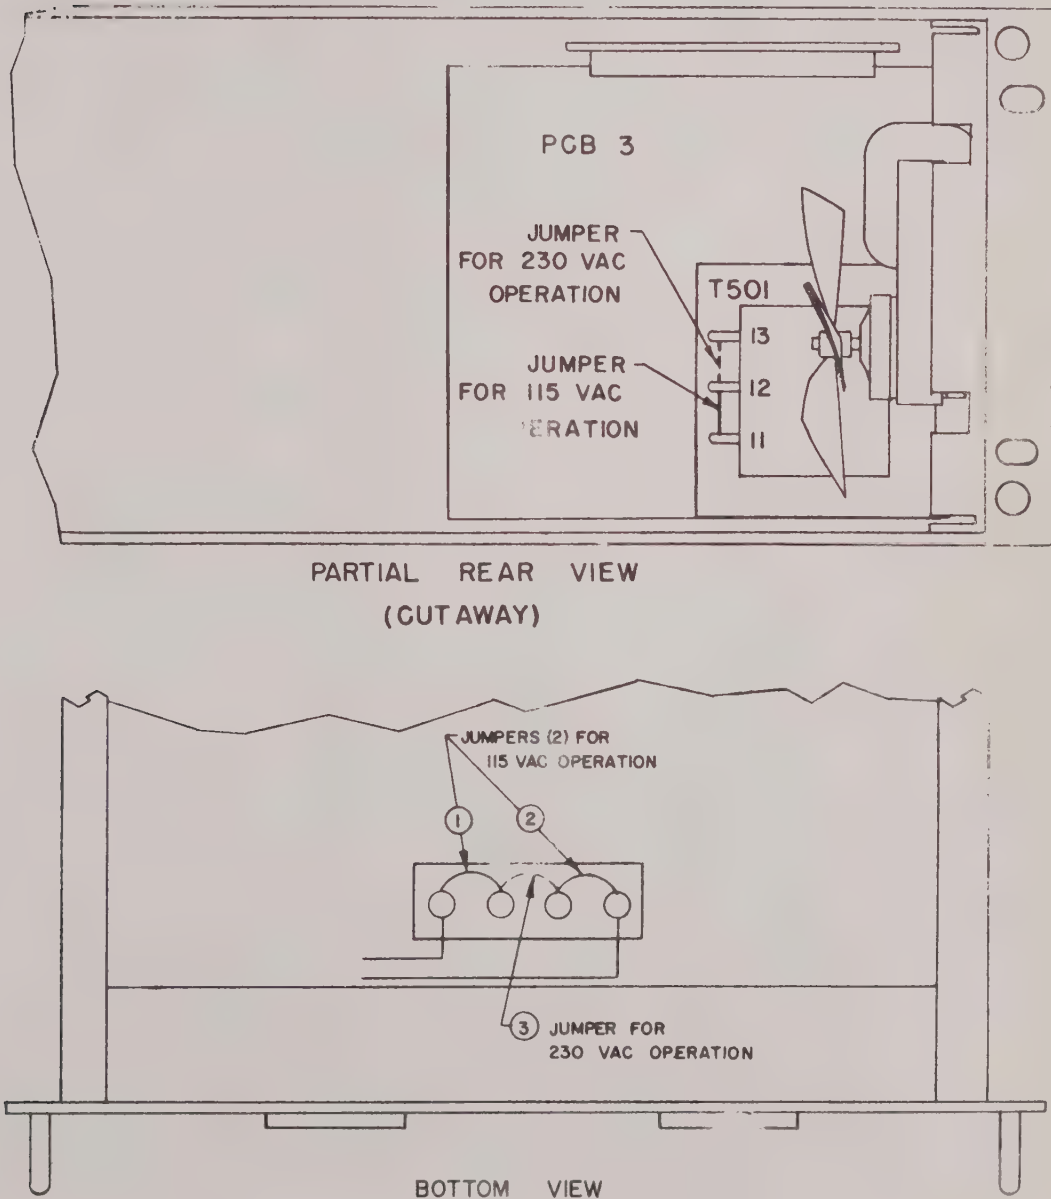

FIG. 2-1 TRANSFORMER CONNECTIONS FOR 115V AC AND 230V AC
- 2-6 This power supply is normally supplied for operation on a single phase, nominal 115 VAC line. For conversion to 230 VAC line operation, refer to Fig. 2-1. Refer to Table 1-1 for Input Current requirements.